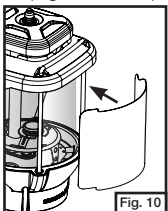

Fig. 10
- Assemble reflector to back of lantern. Align grooves on reflector with the two back rails. Push reflector until it snaps onto back rails. (Fig. 10 and 11)